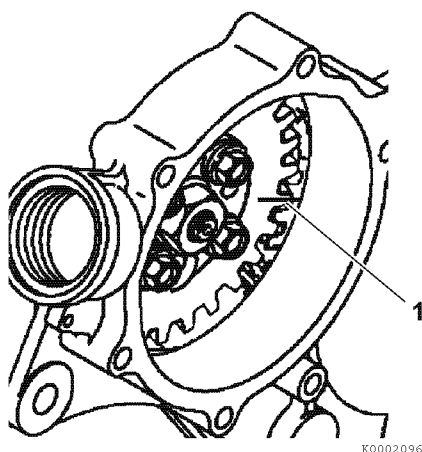

Figure 7-18
14. To aid in reassembly, make reference marks (1, **Figure 7-18**) on the drive gear and idler gear.